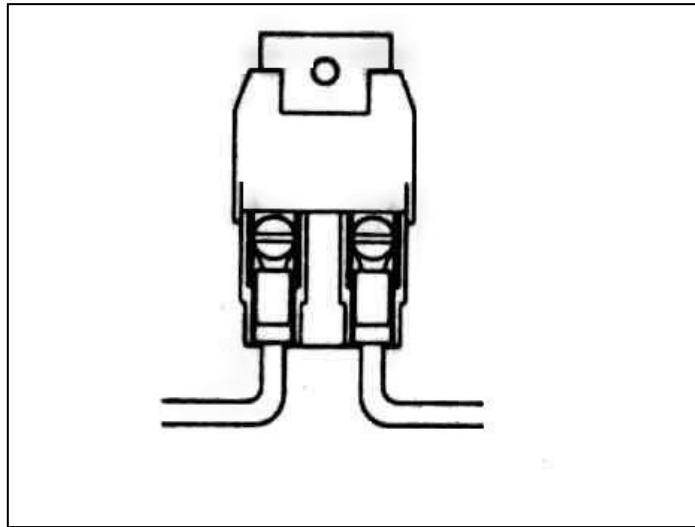

Figure 7.6 Maxi-Fuse
- 7.6.1** With a crimping tool, attach Maxi Fuse (**Figure 7.6**) onto ENGINE SECTION (single) 10GA. Wire #916 Red AFTER having routed this wire from the Fuse Panel to the Starter Solenoid. This serves as a fuse to protect the entire harness. DO NOT OMIT IT! (Alternators over 65 amps see Section 7.4).